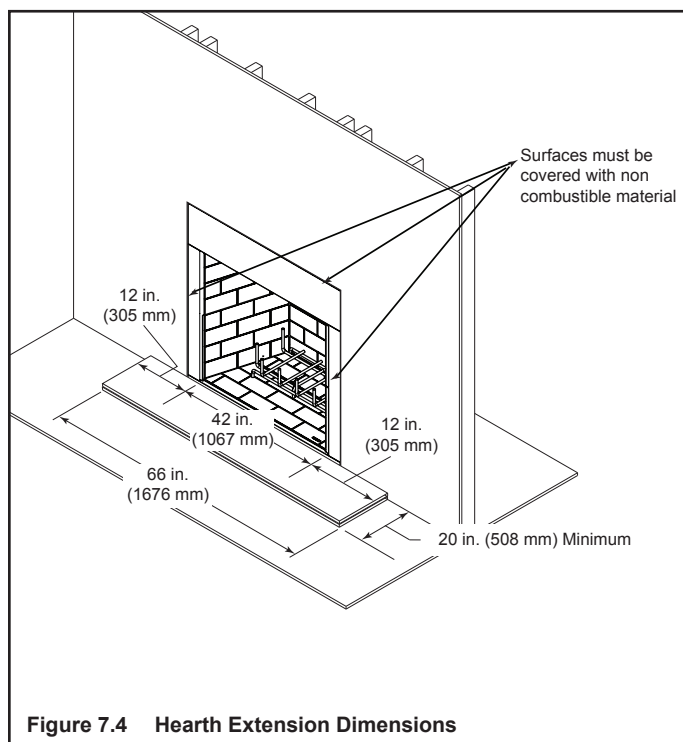

Figure 7.4 Hearth Extension Dimensions
- Refer to Figure 7.4 for minimum dimensions.